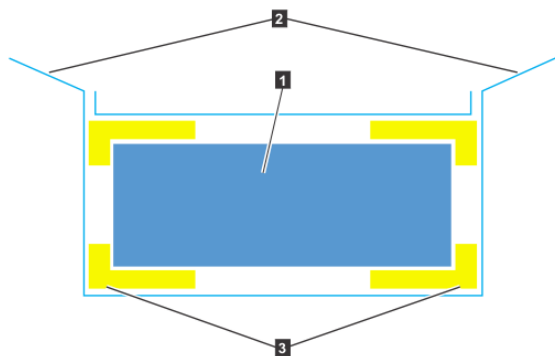

Figure 17. Packaging materials
3. Cut the corners of the shipping box and fold them down to uncover the sides and faces of the expansion enclosure, as shown in Figure 17 on page 38.